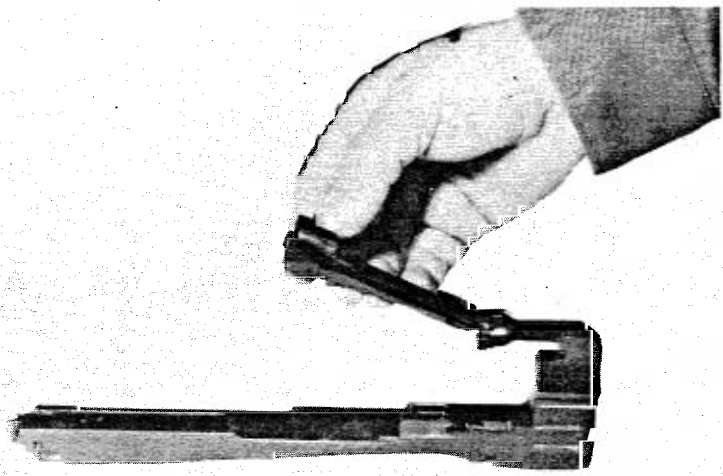

FIG. A-17. INSERTING BOLT INTO CARRIER BLOCK
d. Take the carrier block in the left hand and the bolt in the right hand. Insert the cylindrical part of the bolt into the carrier block channel by directing the firing pin lug into the ejection lug slot. Move the bolt rearward and rotate it to the left. Push the bolt forward (Fig. A-17).